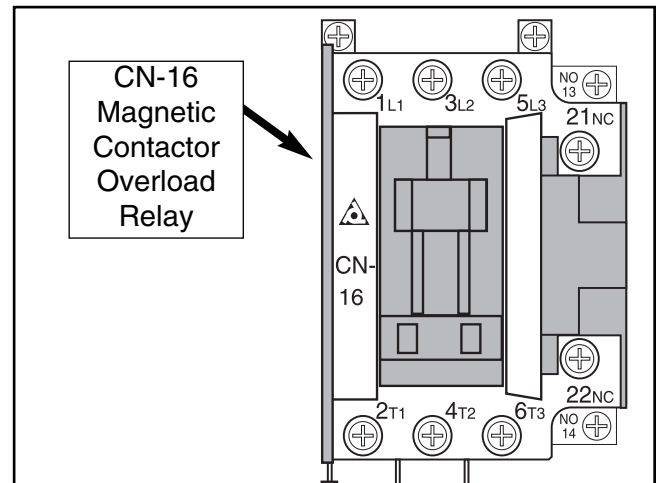

Figure 8. Overload relay.
4. Remove the CN-18 magnetic contact overload relay and replace it with a CN-16 type (Figure 8).